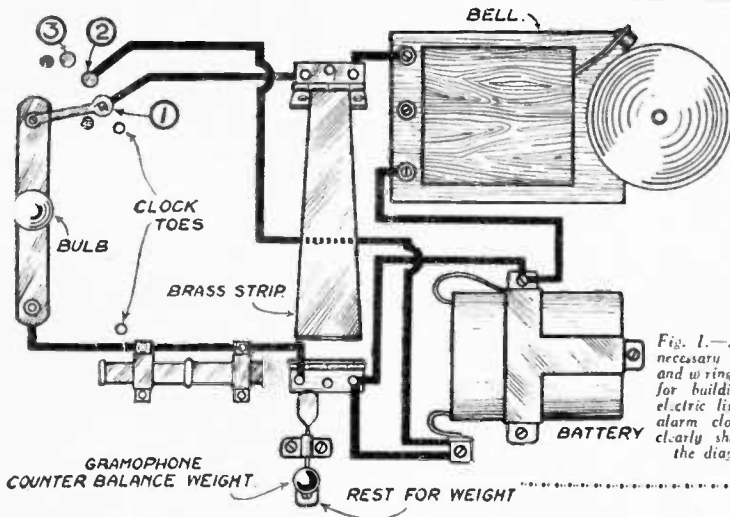

Fig. 1.—All the necessary details and wiring circuit for building the electric light and alarm clock are clearly shown in the diagram.
**M**OST of us have an alarm clock to rouse us each morning, but here is a device where not only does an alarm bell ring but an electric light is automatically switched on. It is quite simple to make, and quite a number of readers will find it very convenient. Obtain a piece of wood for the base 13 in. by 8 1/2 in. by 1/2 in., and fix a battery tester with bulb inserted 1 1/2 in. from the top by means of a screw at each end (see Fig. 1). Fix a switch on one end of the tester (see Fig. 2), and drive in three studs to act as stops for the switch (see Fig. 1). Now take two 3/4 in. hinges and screw them down to the base. To the top hinge solder a brass strip 1/2 in. by 1/2 in., and from a piece of brass or tin cut and bend a bolt as shown in Fig. 3. Next cut two fasteners to hold the bolt as shown in Fig. 4.
The wire is connected from No. 1 screw to the hinge, and from the hinge to the contact stud on the right of the bell (see Fig. 1). Now connect from the stud on the left of the bell to the battery case, and then from the battery case to the bottom hinge. This completes the bell circuit. For the light circuit connect a wire from No. 2 screw to the battery case and from the battery case to the battery tester. No. 3 screw is to switch off all the power.